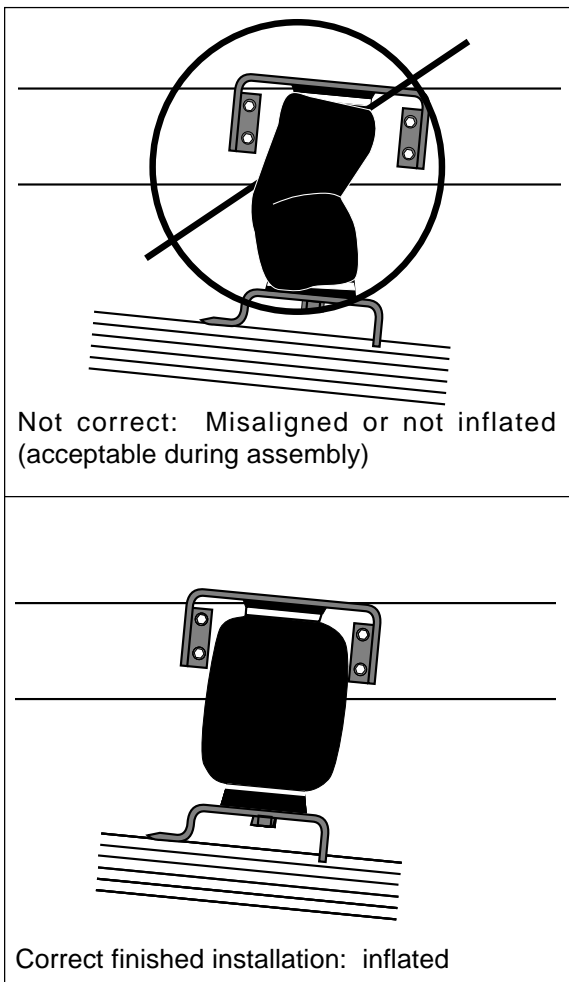

Figure 10
14. **VERY IMPORTANT:** With the bottom and top of the air spring still loose, inflate the air spring to approximately 10 p.s.i. By using the slotted adjustment in the lower bracket align the air spring so that there is a symmetrical cushion of air around the lower base. This can be accomplished by pressing all around the air spring to feel an air gap between rubber and piston. Adjust by tapping it inboard or outboard for proper alignment (Figure 10).
19. Recheck air pressure after 24 hours. A 2 – 4 p.s.i. loss after initial installation is normal. If pressure has dropped more than 5 p.s.i. retest for leaks with soapy/water solution. Please read and follow the Maintenance and Operating tips. Check to see that the sleeve rolls back down over the bottom piston after the vehicle is lowered (Figure 10).